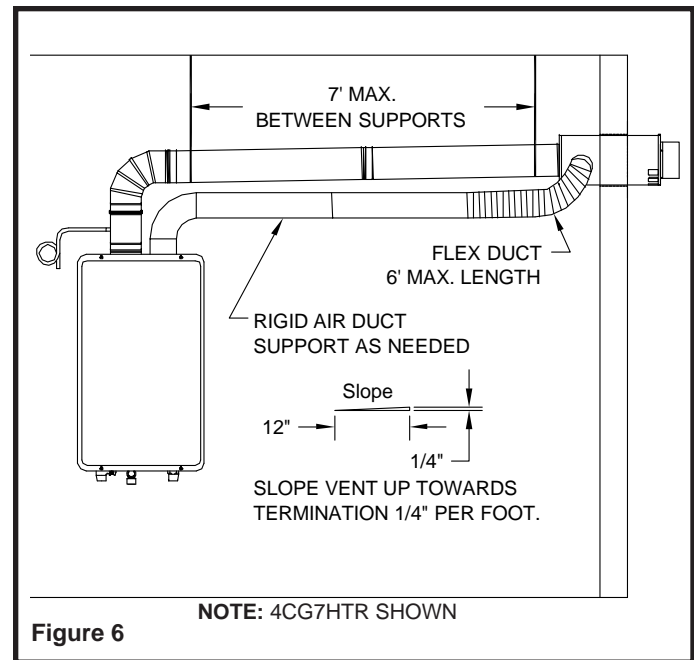

Figure 6
- As noted on previous steps in these instructions, install the termination through the wall and connect vent and flexible duct as appropriate. Only Metal-Fab Corr/Guard single wall vent is approved for venting to this termination. See **Figure 6** for an example of the final installation.